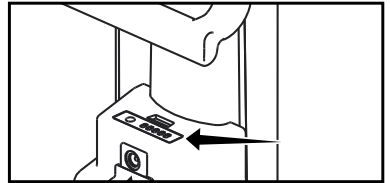

Fig. 3
- When the battery is fully charged there will be four (4) green lights and one (1) red light showing (Fig. 3).
- As the battery is discharged during use the number of green lights showing will reduce from four (4) to none (0).